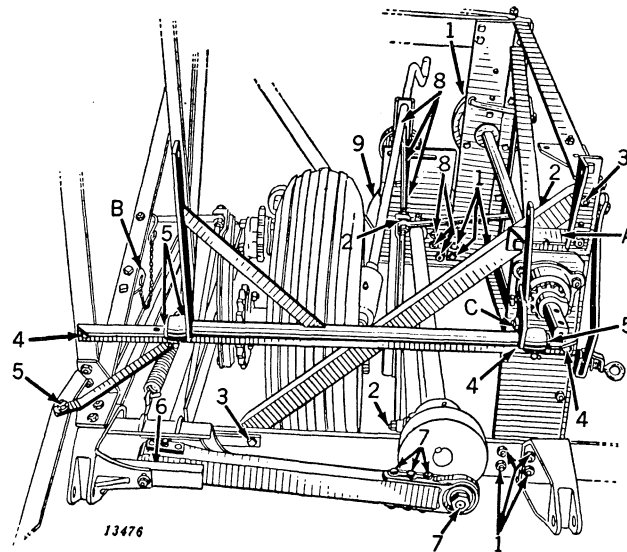

Figure 24
1. Slide stiffener shield onto fingers of layer. Bolt windrow layer finger assembly to platform front sill. Chain controlling slope of fingers fastens in eye ("B," Figure 24).